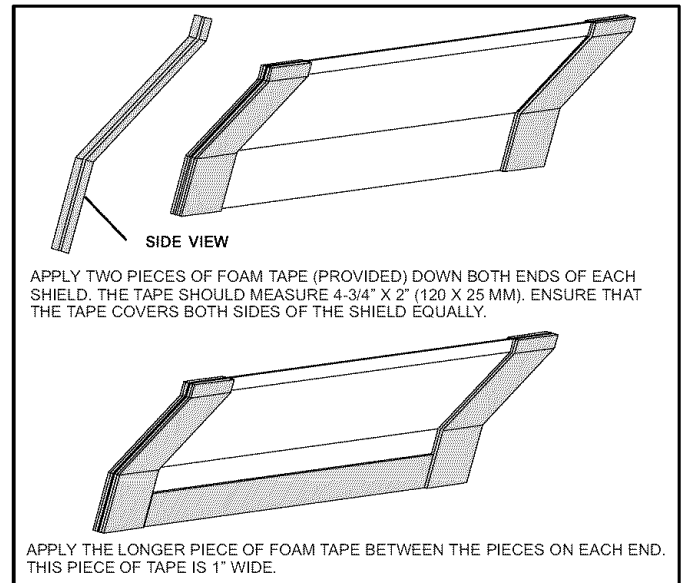

Figure 9. Applying Foam Tape to Drip Shields
- Step 5. Apply precut foam tape to the drip shields as illustrated in figure 9. The foam tape creates a seal between the drip shield and the coil to prevent water from entering into the air stream.